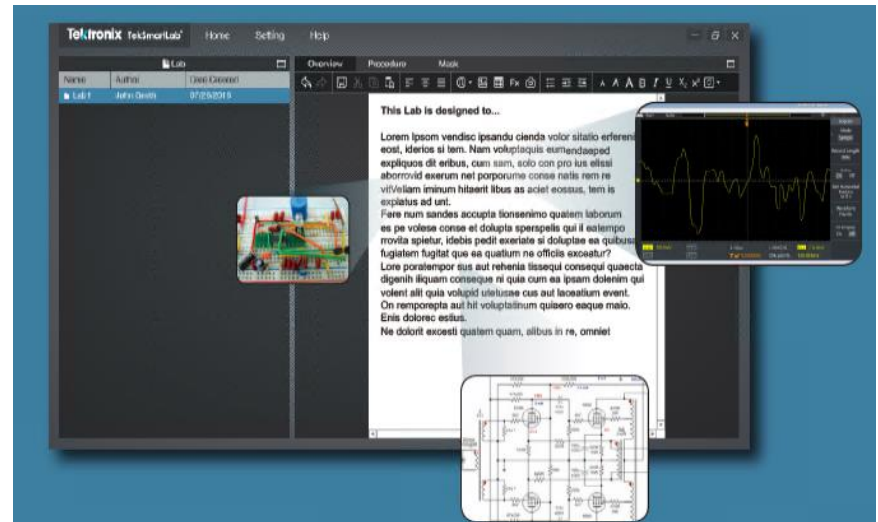

Figure 25. Creating a lab objective for students to read before starting the lab
- Now use the editor page on the **Objective** tab to describe the main objective of the lab. Feel free to use pictures, graphs, and tables. (Figure 25).